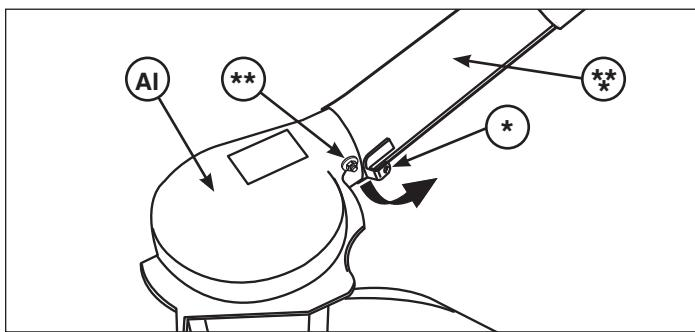

Figure 33
2. Lift clip (*, Figure 33) over nut and capscrew (**), remove intake end of tube assembly (***) and disconnect turbo (AI).